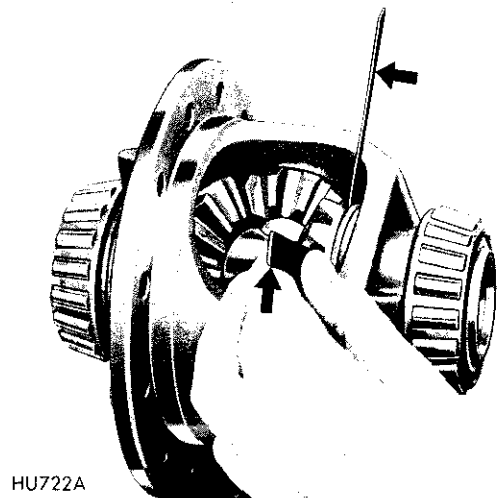

Fig. 20—Measuring Differential Gear Clearance
(8) Measure the side gear clearances between the gear and case (Fig. 20). Clearances should be from .001 to .012 inch. If the clearance exceeds .012 inch, install new thrust washers.
(9) From the back side of the drive gear flange, drive the differential pinion shaft lock pin out of the